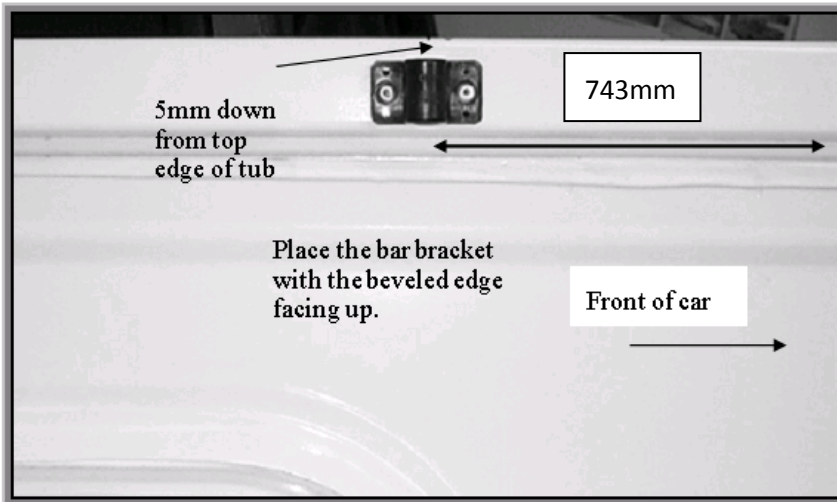

Figure 2: Placement of bar bracket
6. To fit the bar brackets, measure 743mm back from the inside front edge at the top of the tub and place them as shown in Figure 2. (5mm down from top edge of tub) Drill and rivet using two large rivets for each Bar Bracket. Install the support bar according to the supplied instructions.